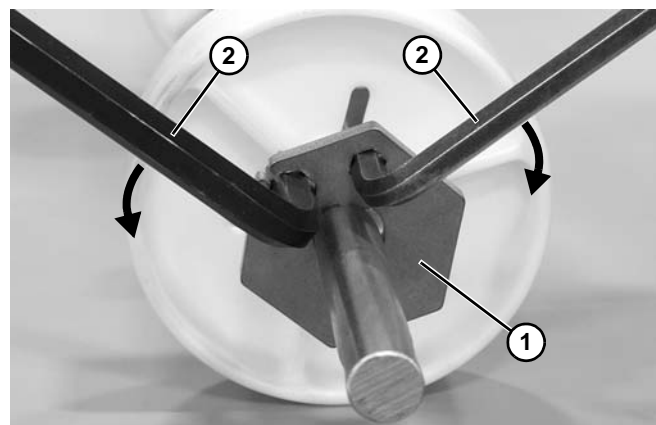

Figure 78
- c. To lock the retainer plate (Figure 78, item 1) in place, move the wrenches (Figure 78, item 2) away from each other.